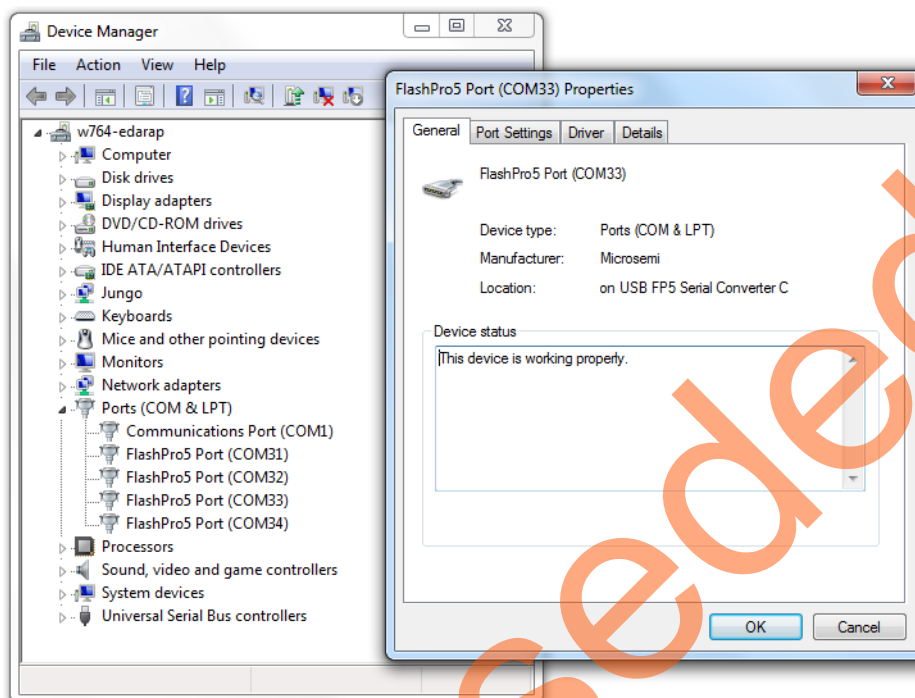

Figure 5 • Device Manager - FlashPro5 (COM33) Properties
2. Select one of the four COM ports with **Location** as on **USB FP5 Serial Converter C**. Figure 5 shows the **Device Manager** window and its properties that display the **USB Serial Port details**. The COM port number is required to run the demo design.